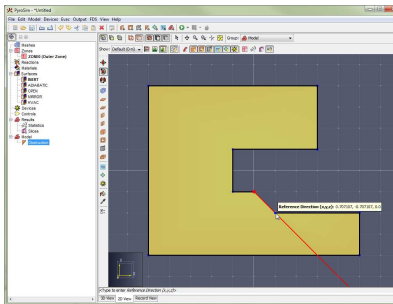

Figure 97. Define reference vector
4. Single-click another point to define a **reference vector** from the first point to the second point (Figure 97). This **reference vector** is what the angle is based from.